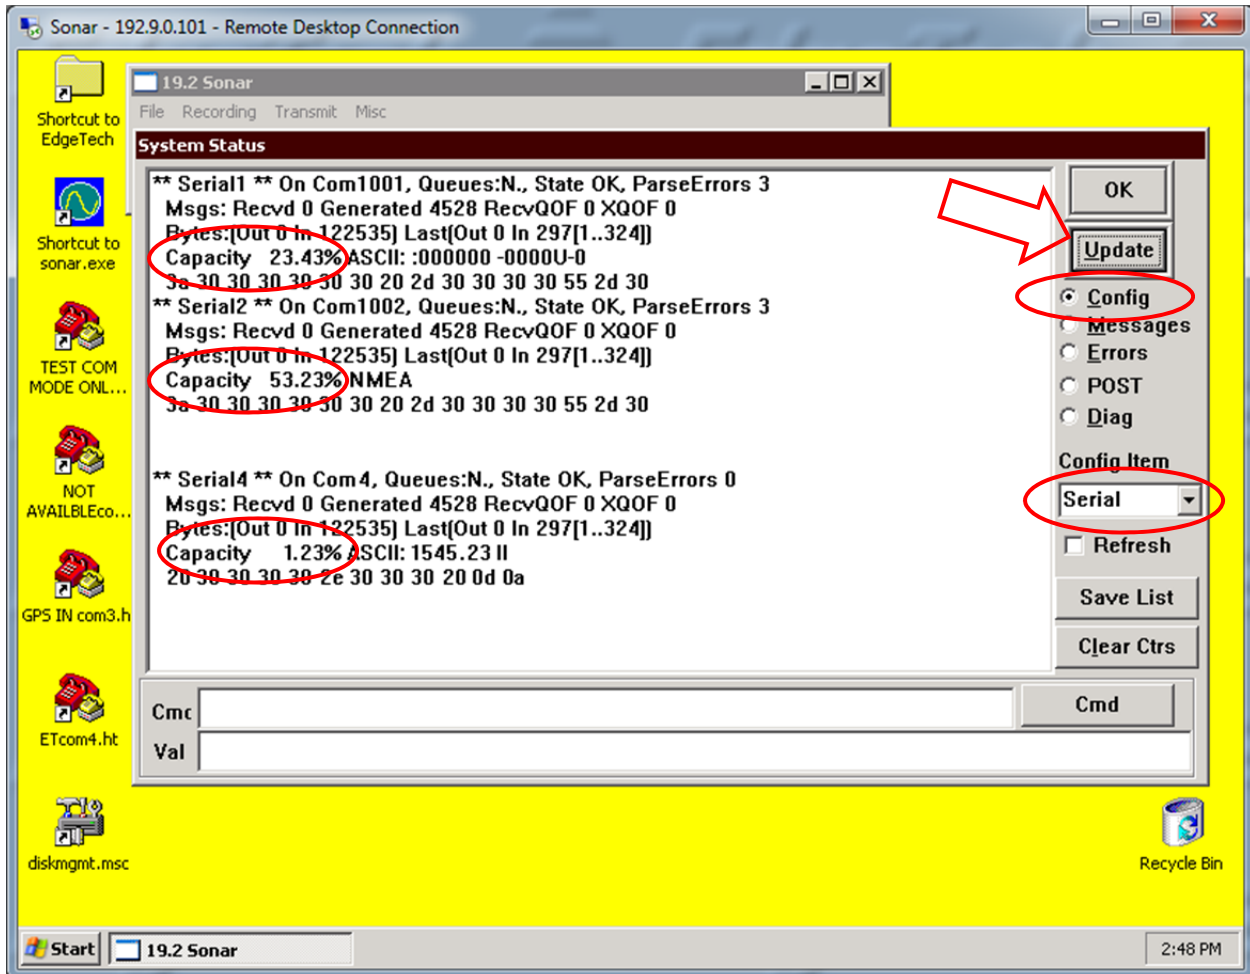

Figure 19: System Status Window
4. Now click on Menu > **File** > **Show Status**. The *System Status* window will appear as shown in Figure 19.